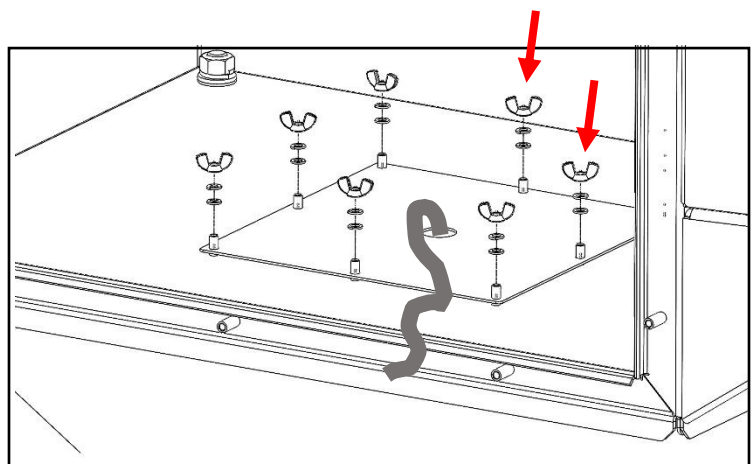

Figure 15 - Placement of Removable Plate inside bottom of charger (optional Cable Gland not shown)
8. Feed AC power-in cable in center of pedestal up through removable plate, taking care not to damage gasket on down-side of plate, and lower plate back onto 8 small studs (Figure 15).
9. Return the 8 sets of M5 wingnut, split washer, and flat washer to studs and hand-tighten to secure plate to charger (Figure 15).